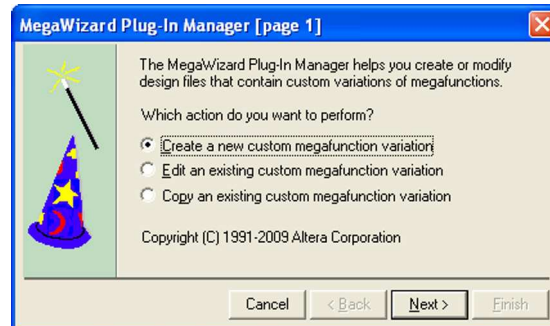

Figure 11. The MegaWizard.
1. Select Tools > MegaWizard Plug-In Manager. This leads to the window in Figure 11. Choose the action Create a new custom megafunc-tion variation and click Next.